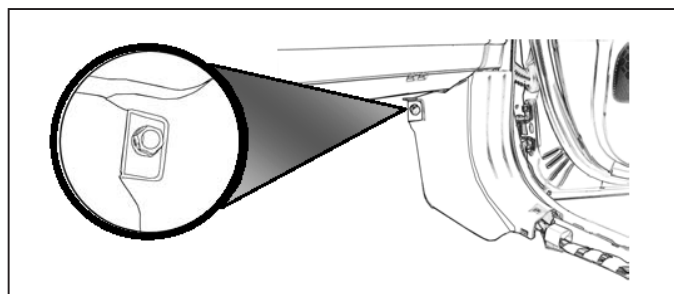

Figure B3
- 3. Remove kick panel using pry tool making sure to unscrew nut as shown in Figure B3